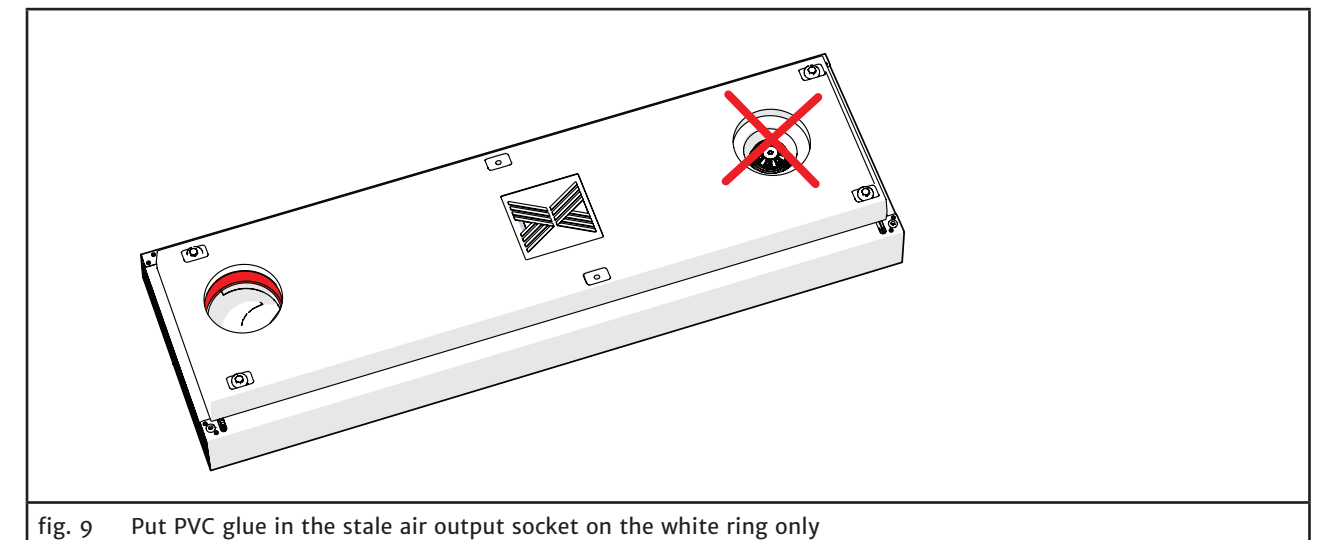

fig. 9 Put PVC glue in the stale air output socket on the white ring only
1. Put PVC glue on the white ring which is located in the inside of the stale air output socket (see fig. 9). Do not put PVC glue on the fresh air input tube.